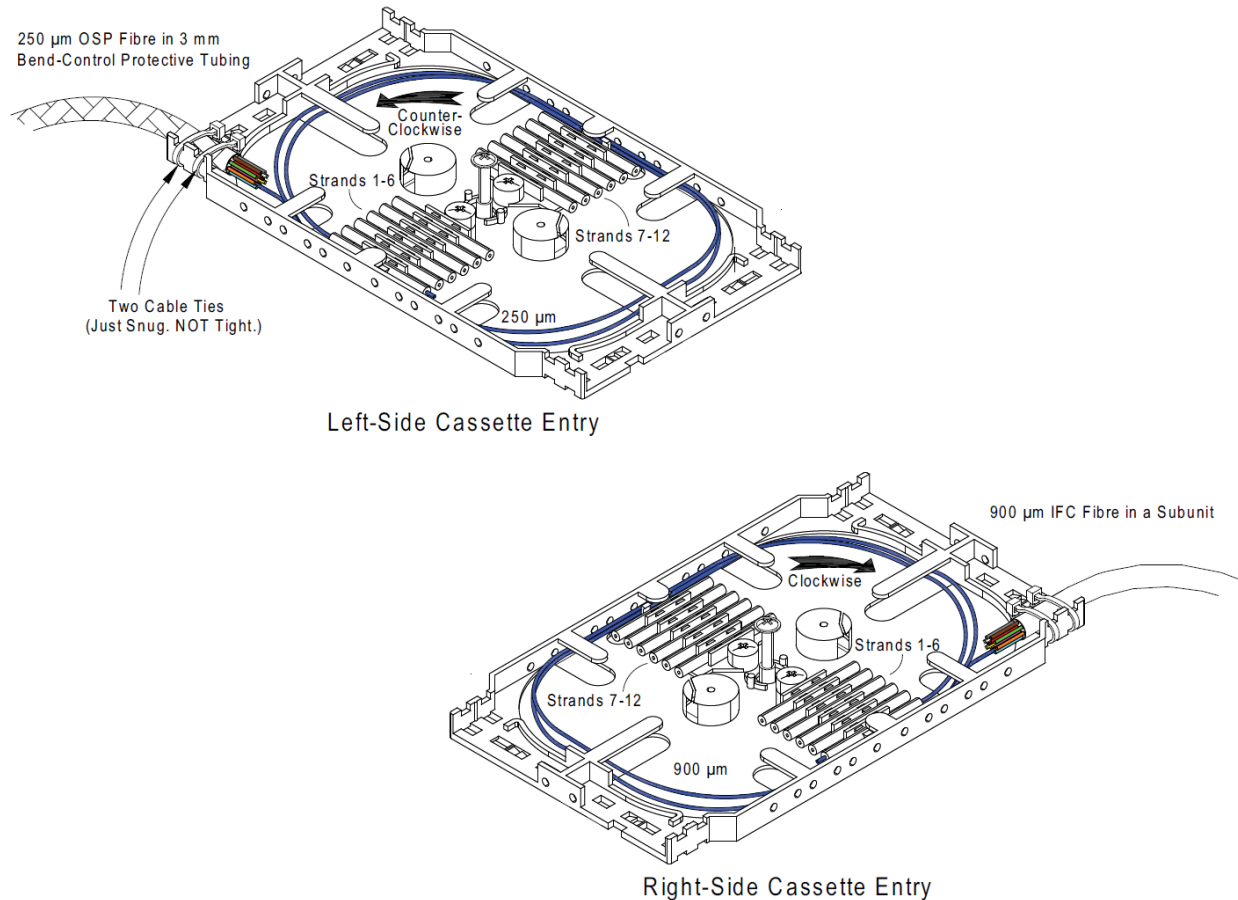

Figure 29 - Clockwise vs. Counter-Clockwise Routing in a Cassette
- a. Slip on the first splice sleeve, dress and clean the ends of the first fiber pair. Splice pair and insert sleeve into splice holder, as shown in Figure 29.